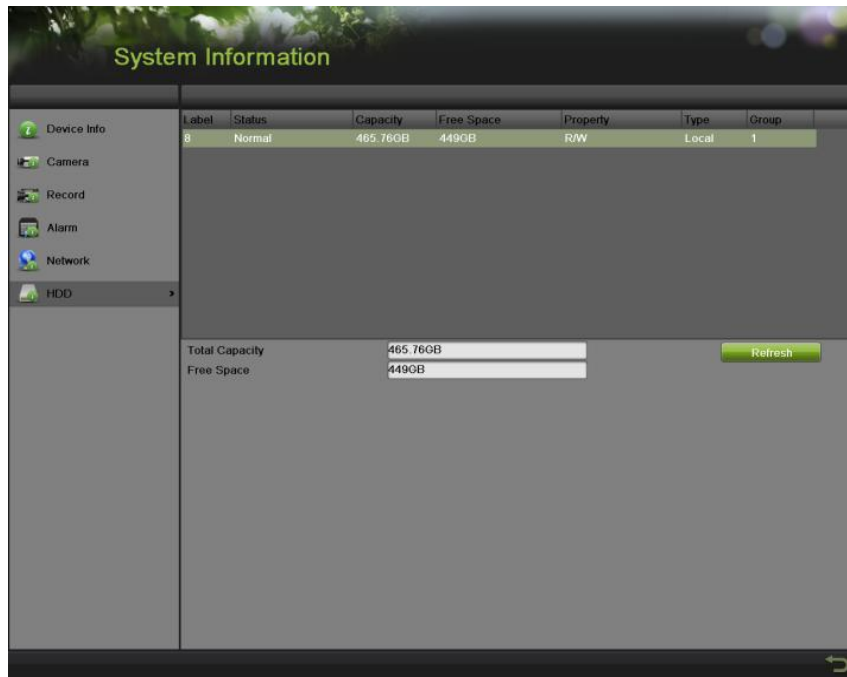

Figure 24 HDD Information Menu
6. Select the HDD tab to enter the HDD Information menu to view the HDD status, free space, capacity, etc, as shown in Figure 24. You can click the refresh button to renew the information displayed.